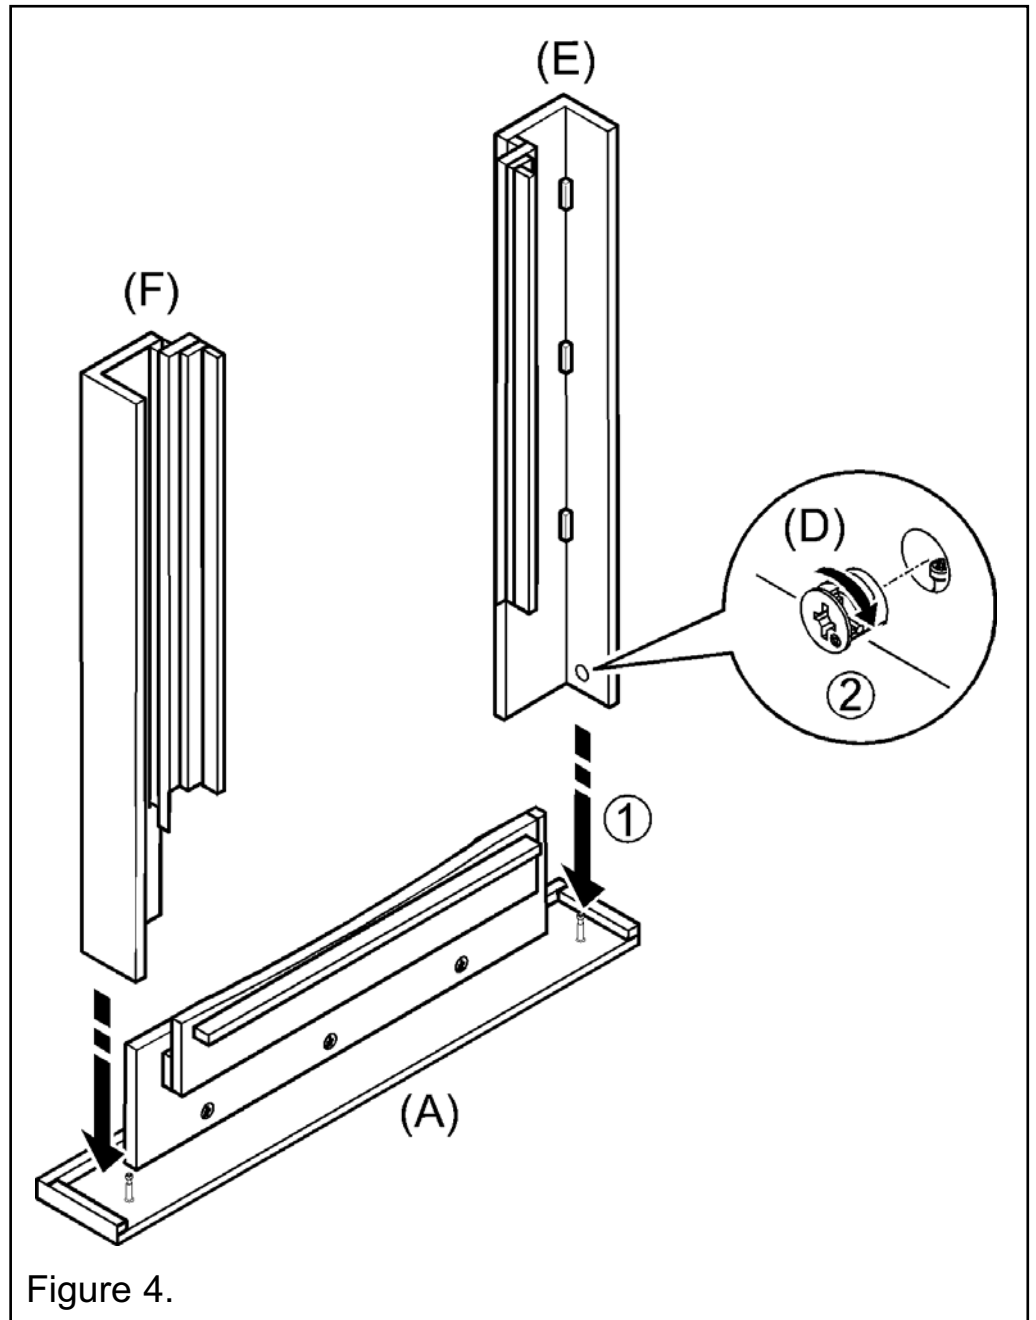

Figure 4.
- Locate the left leg (E) and right leg (F) onto the cam bolts in surround top (A) as in figure 4.
- Secure in place using two cam locks (D) as in figure 4.